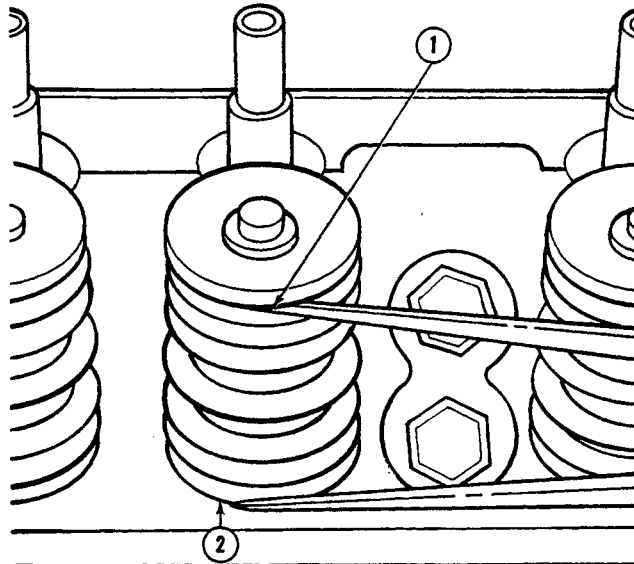

Figure 23
5. Be sure the springs and spacers are in their correct position, as shown in Figure 23, then proceed with the assembly.
Measure the assembled height of the valve spring from the surface of the cylinder head spring pad to the underside of the spring retainer. Use dividers, Figure 23.